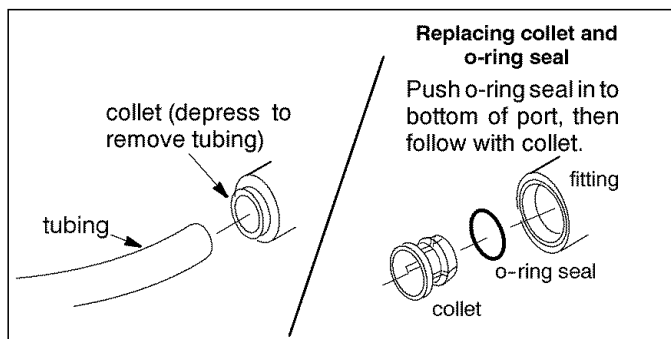

Figure 13
**To Disconnect Tubing (Figure 13):** Push the collet inward and hold with a finger while pulling the tubing out.
### Changing Collet and O-ring (Figure 13):